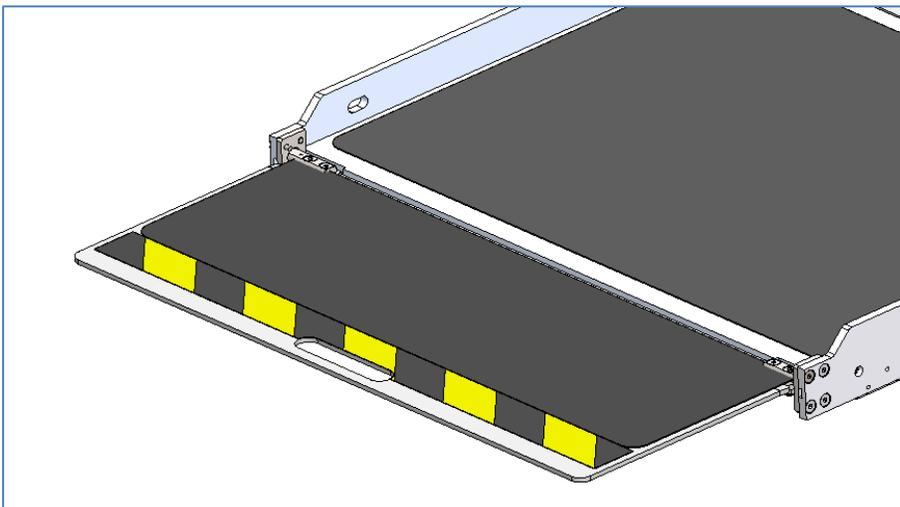

Figure 17
- 12) Perform a quick functional test on the lift by deploying the outer barrier and press the UP push button. Then release the UP push button and press the DOWN push button. See Figure 17. The platform should not move in both cases.